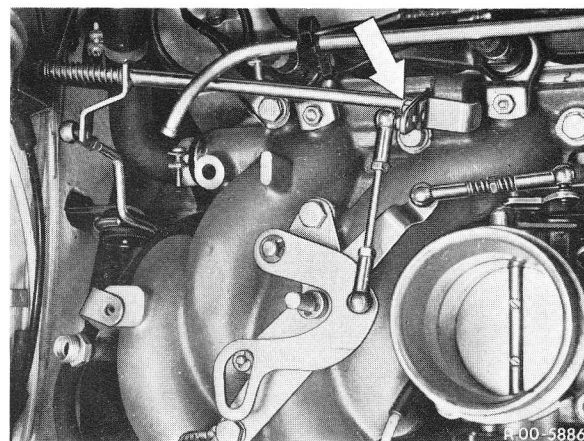

Fig. 2
- 4 Loosen screw (arrow in Fig. 2), remove lock washer, push longitudinal control shaft in direction of front wall and remove. Watch out for the two plastic bushings.